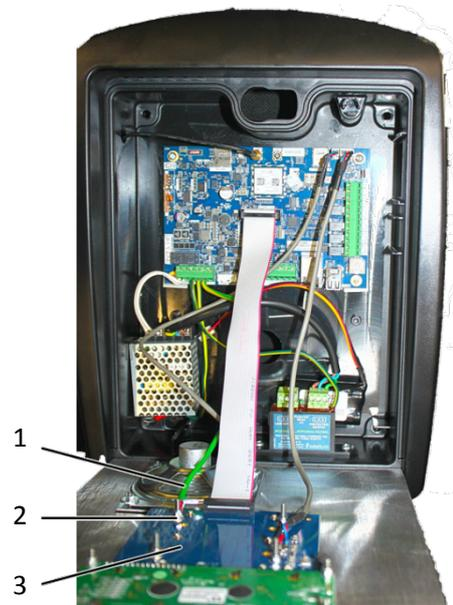

Figure 14: Disconnect Front Cover Earth Wire
7. Disconnect the speaker earth wire (1) using a 5.5 mm nut driver; remove the nut (2) securing the earth wire from the Keypad/LCD Assembly (3) (See Figure 14).